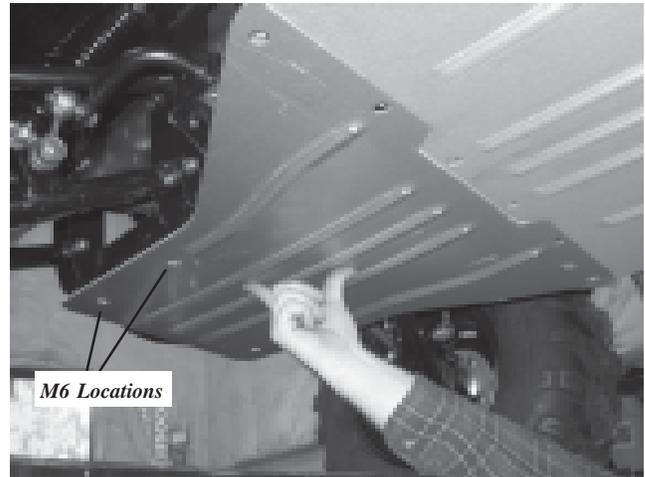

Figure 6
8. Locate rear skid plate (A3) on vehicle. Align rear skid plate with middle skid plate and vehicle frame. Center punch and drill mounting hole locations for rear skid plates. Install fasteners (B1 & B2). Tighten all fasteners for front skid plate, middle plate and rear skid plate to torque specification listed. **(Figure 6)**